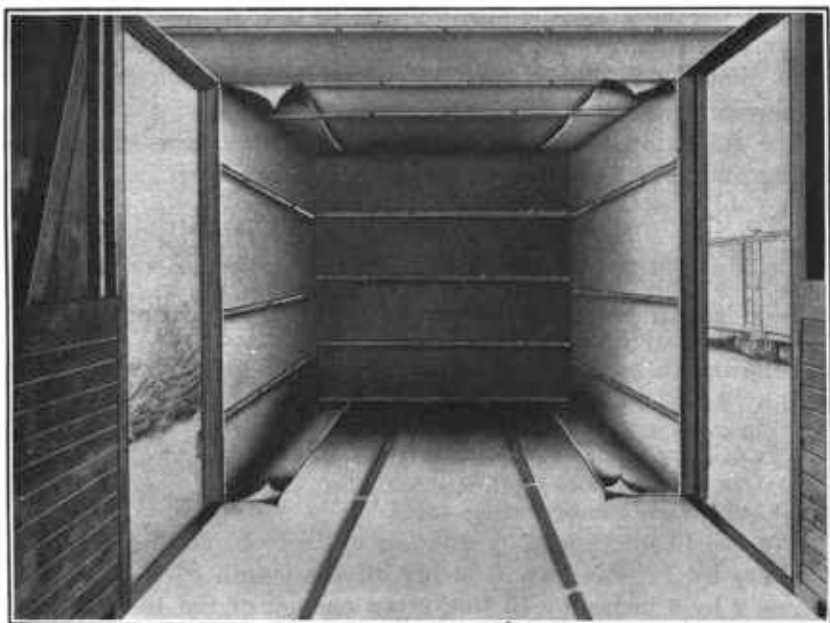

FIG. 2.—Properly papered box car. The ceiling, floor, and walls of box cars should be papered before installing the false floor and walls.
2. Paper the inside of the car ceiling, walls, and floor as illustrated in figure 2. All seams should lap not less than 4 inches. All seams on the walls should be lathed, as well as those on the ceiling when it is possible to do so. The paper on the ceiling should be held in place with laths nailed to the roof supports or to a light superstructure built in when there is nothing suitable already installed. Paper should be carefully folded over all corners and lines where the floor and walls join.